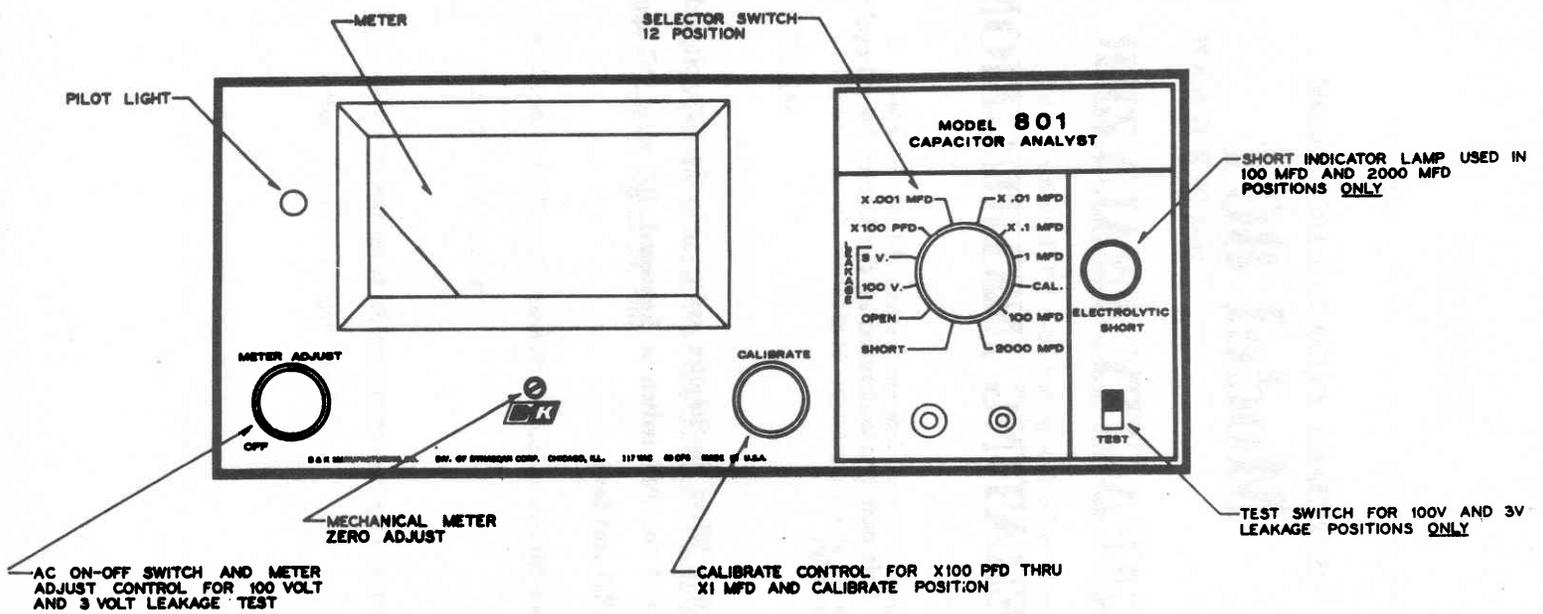

FIGURE 1. CONTROL LOCATIONS
2. Rotate the Selector switch to the SHORT position. See Figure 1.